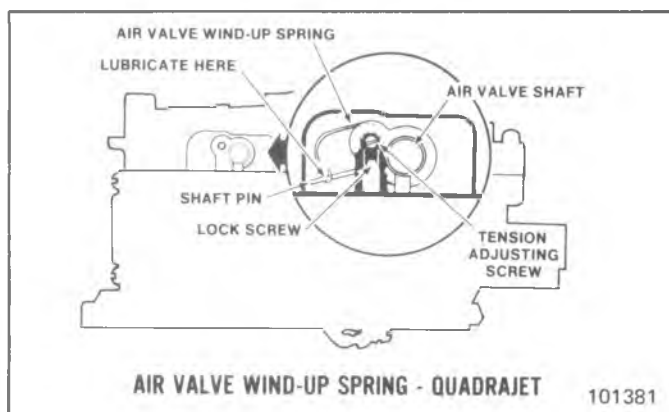

Fig. 6C4-24--Lubrication of Air Valve Shaft Pin
5. Install choke coil lever on flats on intermediate choke shaft, install retaining screw, and tighten securely (Fig. 6C4-20). Lever is properly aligned when both inside and outside levers face toward fuel inlet.
7. On hot air choke models, insert plastic tube seal (to float bowl) in vacuum inlet hole on choke housing (Fig. 6C4-20).
8. Install lower (inner) choke lever in cavity in float bowl using Tool J-23417 or equivalent (Fig. 6C4-23). Install choke housing to bowl sliding intermediate choke shaft through bowl seal and into lower (inner) choke lever.
8. Install choke housing retaining screw and washer (Fig. 6C4-20) and tighten securely. Check linkage for freedom of movement.
Do not install the choke cover and coil assembly on housing until completion of adjustments (starting at Figure 6C4-29).